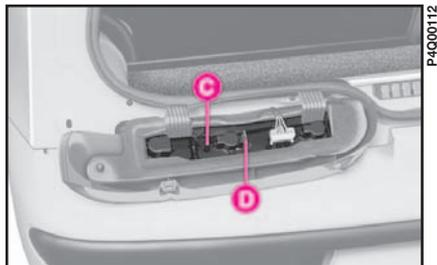

fig. 26
2) remove bulb holder **C-fig. 26** releasing clip **D**;